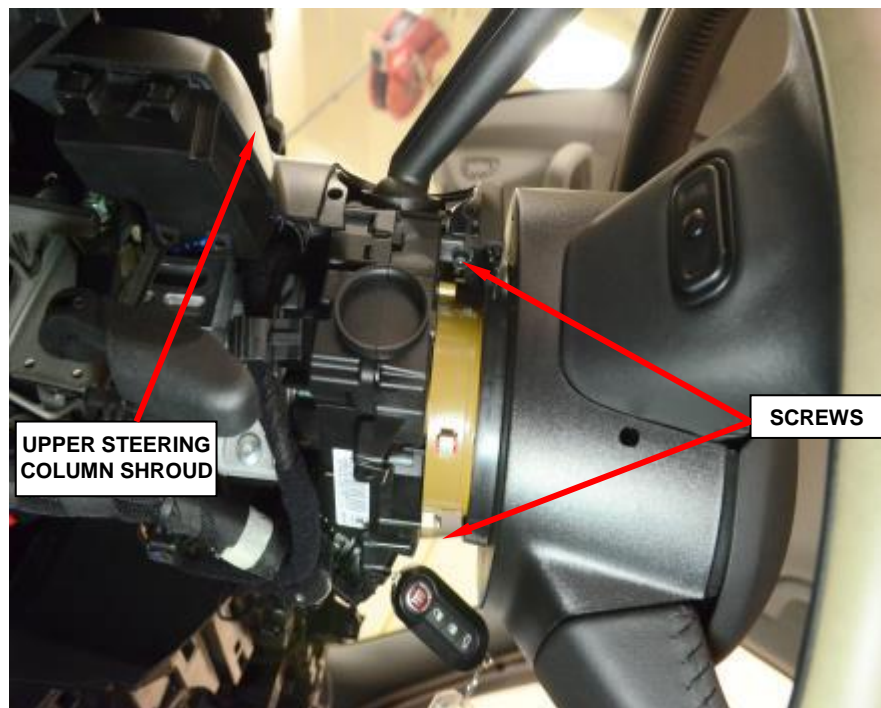

Figure 16 – Upper Steering Column Shroud Screws
23. Remove the two upper steering column shroud screws (Figure 16).